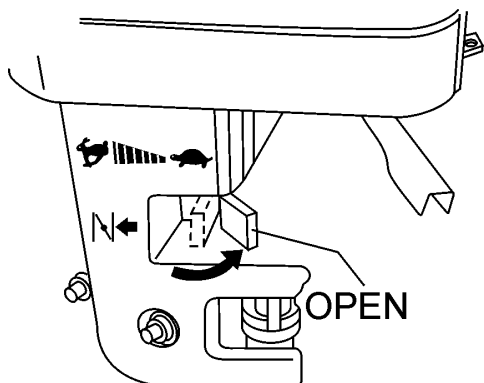

Figure 23. Choke Lever (Open)
5. If starting a warm engine place the **choke lever** (Figure 23) in the "**OPEN**" position.